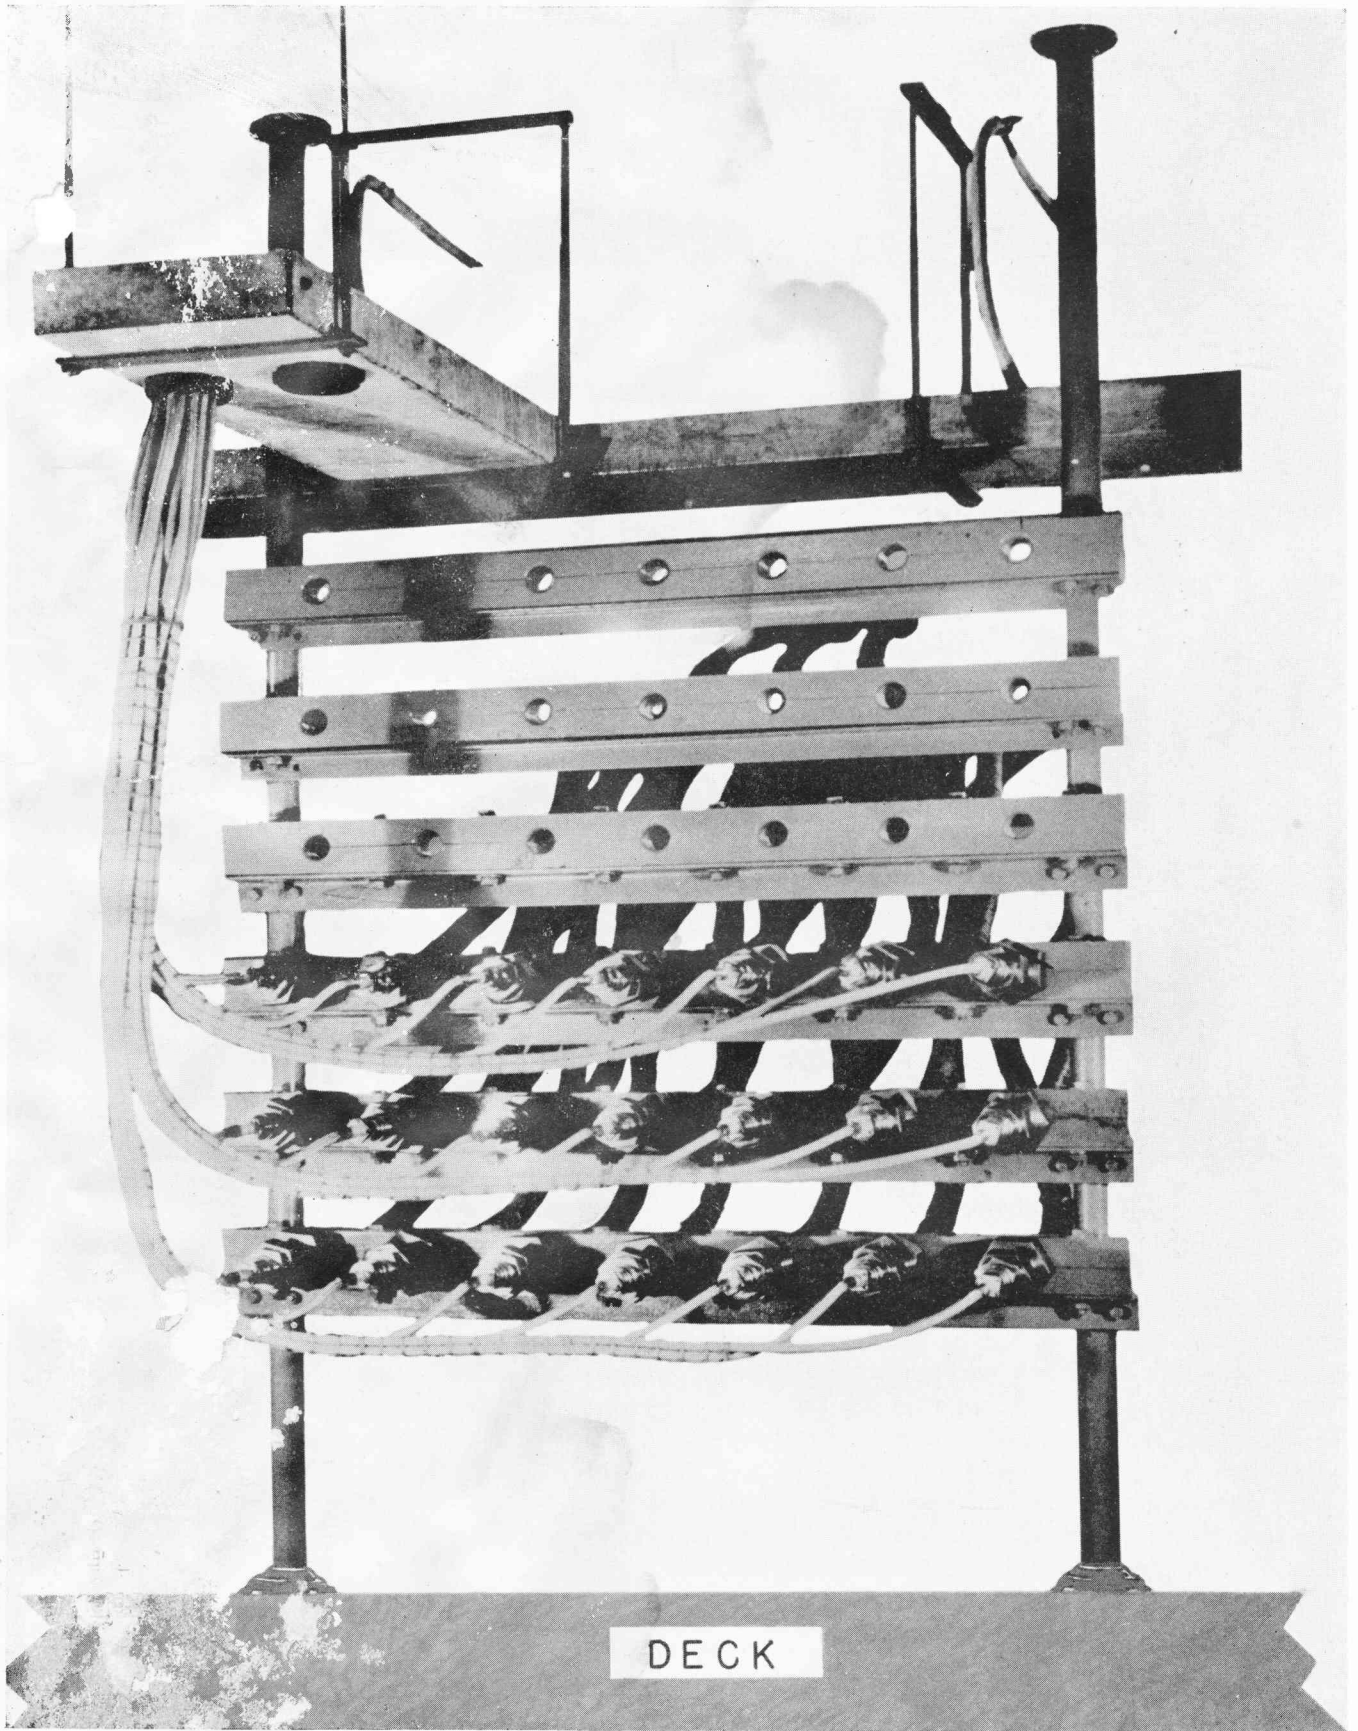

Figure 2-4. Cable Support for RG-85/U Cable Fabricated According to BuShips Drawing RW6F366D
(2) METHOD 2, INSTALLATION OF CONNECTOR-ADAPTERS NAVY TYPE CIA-491652 OUTSIDE THE CABINETS AN TYPE CY-597/G.—Since the interior of the cabinets is already crowded without the RG-85/U cable, the Connector-Adapters may be installed outside the cabinets in particular installations when specified by BuShips. They may then be located in one of the two places as specified by the Bureau. In stations having a satisfactory basement, the RG-85/U cable will be brought into the special cable support illustrated in figure 2-4. This cable support is located in the most convenient position in the basement and RG-12/U cable brought from the Connector on the top of the Connector-Adapter into the Cabinet AN Type CY-597/G rather than bringing in the RG-85/U cable which is bulky and unwieldy to handle. The only cut-out required in this case under the Cabinet AN Type CY-597/G is a hole large enough to accommodate the required number of RG-12/U cables.
In either case, the Connector-Adapters, Navy Type CIA-491652 are installed in the same manner as described in figure 2-4. It will be noted, that in this case, the cable itself is clamped into the cable support and the regular mounting nut on the Connector-Adapter is not used.